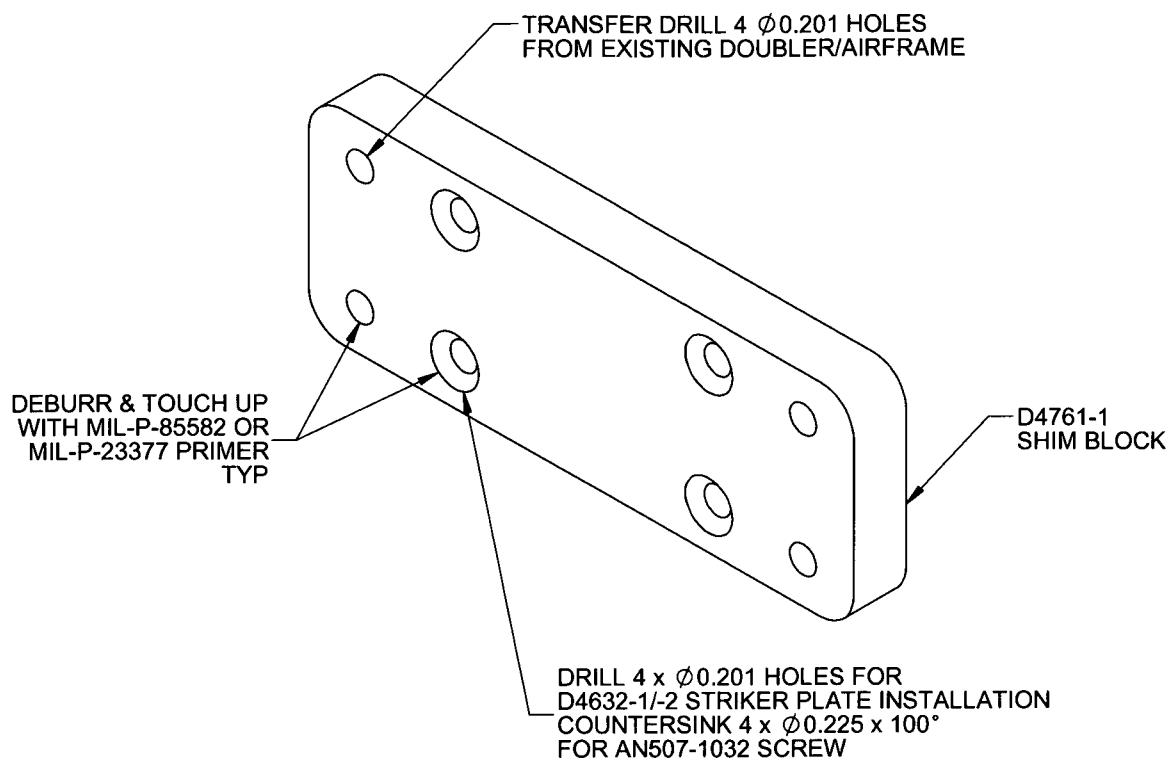

FIGURE 2 - D4761-1 SHIM BLOCK - DRILLING DETAIL
4. Remove the D4632-1/-2 striker plate and D4761-1 shim block from the aircraft and drill and countersink 4x Ø 0.201 holes as shown in Figure 2.